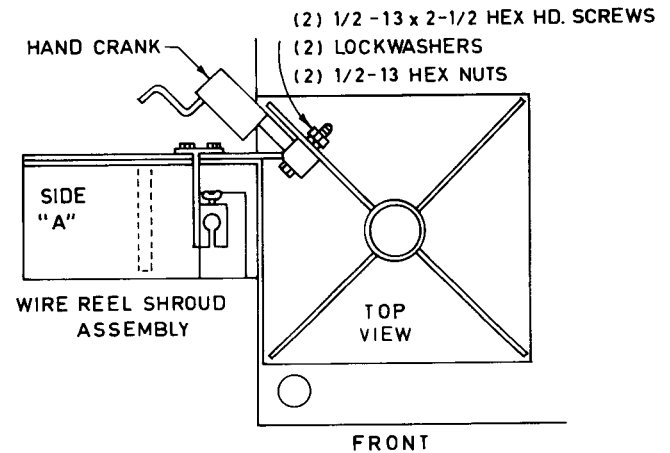

Figure 7
- A) Option L reel for left hand wire feeder (Side A). Fasten the mounting bar with the two 1/2-13 x 2-1/2 hex head bolts, lockwashers, and nuts supplied as shown in Figure 7 below. Tighten the bolts securely.